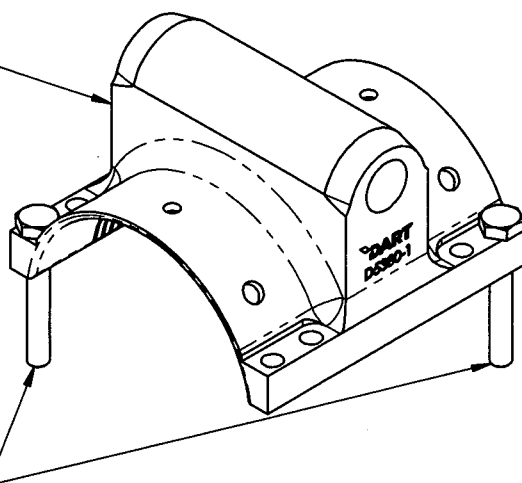

Figure 1 - Support Installation
- 2.10 Install D5380-1 Upper Support Half onto the crosstube as shown in Figure 1 and install Qty (2) NAS6704-21 Bolts into opposing corners of the D5380-1 Support. Use the rocker beam as a guide to ensure proper orientation of the D5380-1/-3 Center Support in relation to the D4910-1 Chafing Shields.